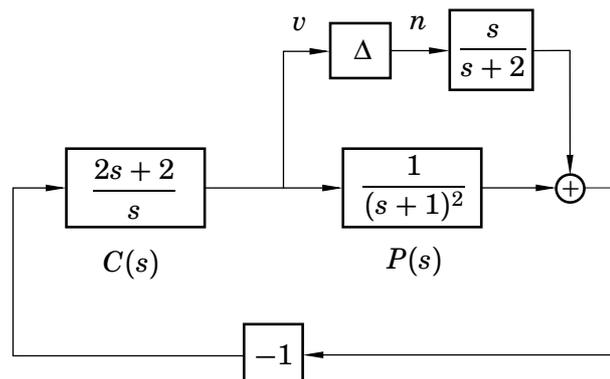

Figure 3.2 System for Problem 3.2.
- 3.2 Consider the system in Figure 3.2.
- c. What is the difference between the uncertainty model in this problem and the one in Figure 3.2?